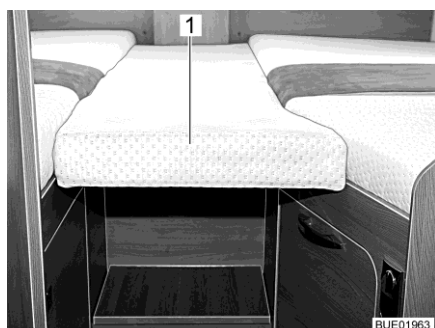
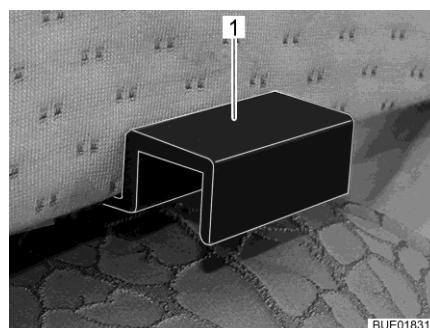

Fig. 115 Additional cushion
Fig. 116 Additional cushion holder
- Hook the additional cushion (Fig. 115,1) with the holders (Fig. 116,1) into the panels of the single beds so that a closed lying surface is created.